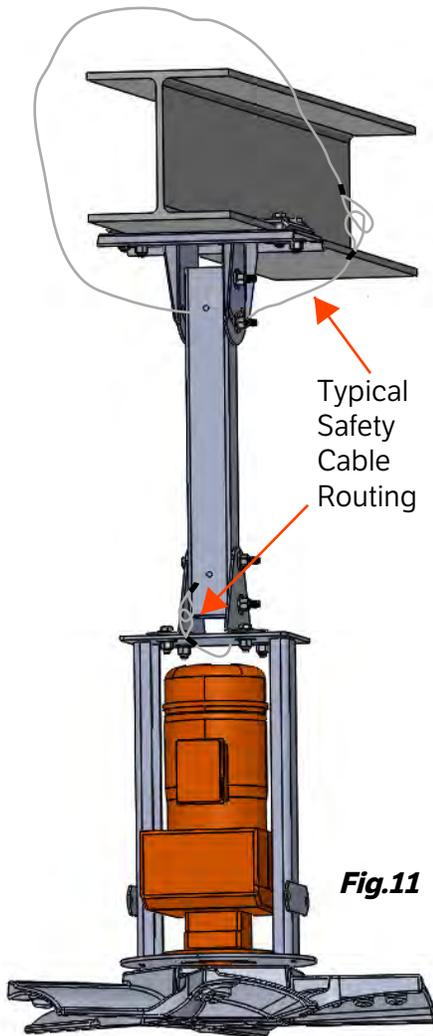

Fig.11
3. Position the Upper Safety Cable as per Fig. 11, fasten the loops with the connecting shackle provided.
3. Position the safety cable as per Fig. 11. (page #11) and secure with the connecting shackle.